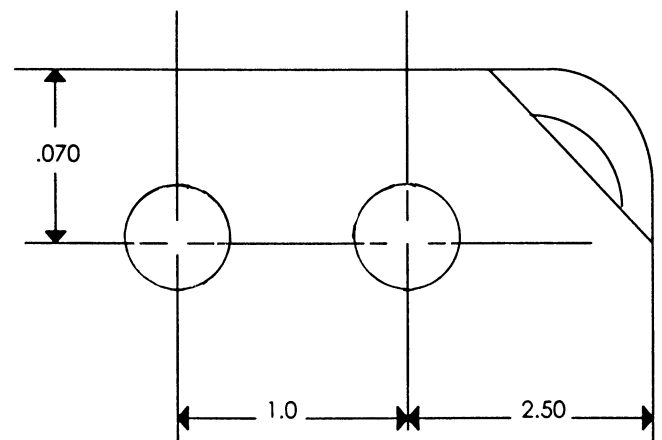

Figure 7. Locations of new holes for mounting the OFLO terminal block.
3. Drill and tap two holes for the 5/16-18 bolts. Figure 7 shows the hole locations.